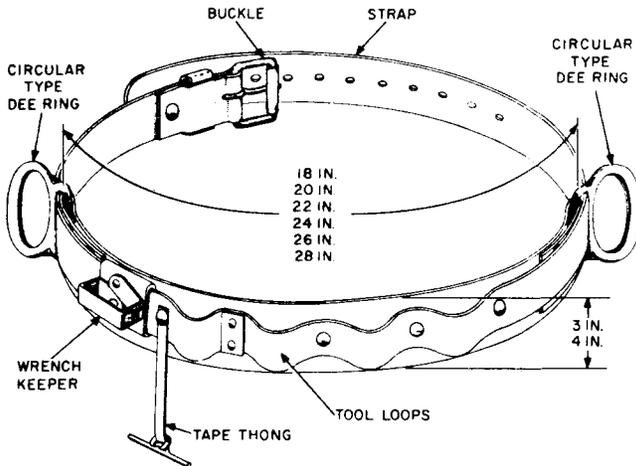

Fig. 1—B Body Belt (Right)
3.01 The B Body Belt (Fig. 1) is made of harness leather and is equipped with drop-forged, circular-type D-rings and buckle, a metal wrench keeper, a tape thong, and leather tool loops. The portion of the strap between the D-ring and the tool loop which is farthest from the wrench keeper will accommodate the holster. The belt is furnished in both a 3-inch and 4-inch width in six sizes ranging from 18 to 28 inches in 2-inch increments. The B Body Belt may be used as either a right-hand or left-hand belt as described in 3.04. Sizes are designated by a three-digit number such as 318 for a 3-inch wide belt in size 18. The size of the belt is the distance between D-rings measured in inches as shown in Fig. 1. The weight of the belt ranges from about 2-1/2 pounds for size 318 to about 3-1/4 pounds for size 428.
3.04 Fig. 1 shows a RIGHT B Body Belt as supplied. The belt can be made into a LEFT belt by swinging the tape thong through 180 degrees on its rivet and inverting the belt so that the belt buckle is to the wearer's right. In such case, if an offset double holster is used, it should be the LEFT type.
3.07 The Cushion Body Belt is available in seven sizes designated D-18, D-20, D-22, D-24, D-26, D-28, and D-30. The size of the belt is the distance between D-rings measured in inches as shown in Fig. 1. The weight of the belt ranges from about 4-1/2 pounds for the D-18 size to about 6 pounds for the D-30 size.